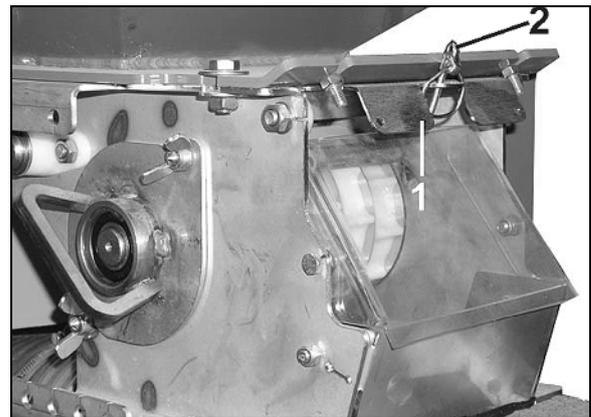

Fig. 87
1. Remove the folding plug (Fig. 87/2) (only necessary to close the filled seed hopper with the slider (Fig. 87/1).